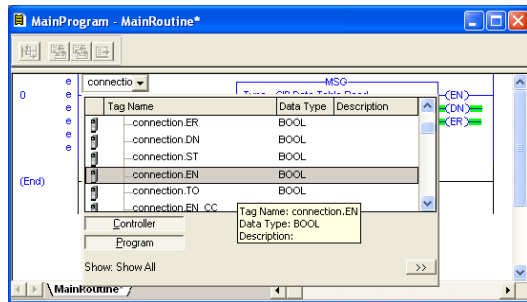

Figure 46: Configure XIO Element
- a) Double-click on the XIO element located to the left of the MSG block. In the drop-down box, double-click on the “connection.EN” field. Refer to Figure 46. This configuration causes the MSG instruction to automatically retrigger itself when it completes. While this is acceptable for the purposes of this example, it can produce high network utilization. In actual practice, it may be